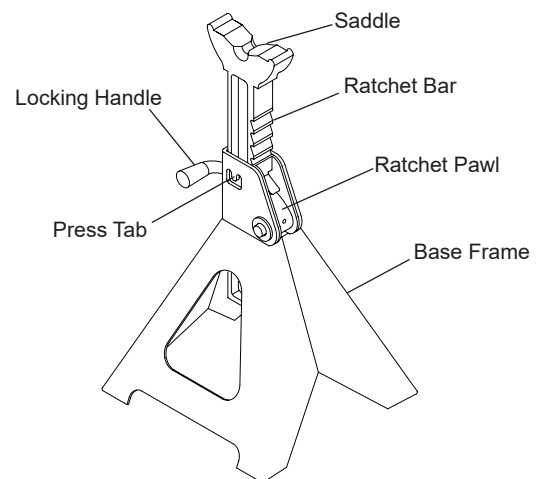

Figure 1 - Typical Jack Stand Nomenclature
3. Verify the product and your application are compatible. If in doubt, contact Pro-Lift Customer Support @ (888) 332-6419.
6. Ratchet bar/collar lock is accomplished by bending the press tab (Fig.1) inward using a suitable hammer and punch. This will prevent inadvertent loss of the ratchet bar.